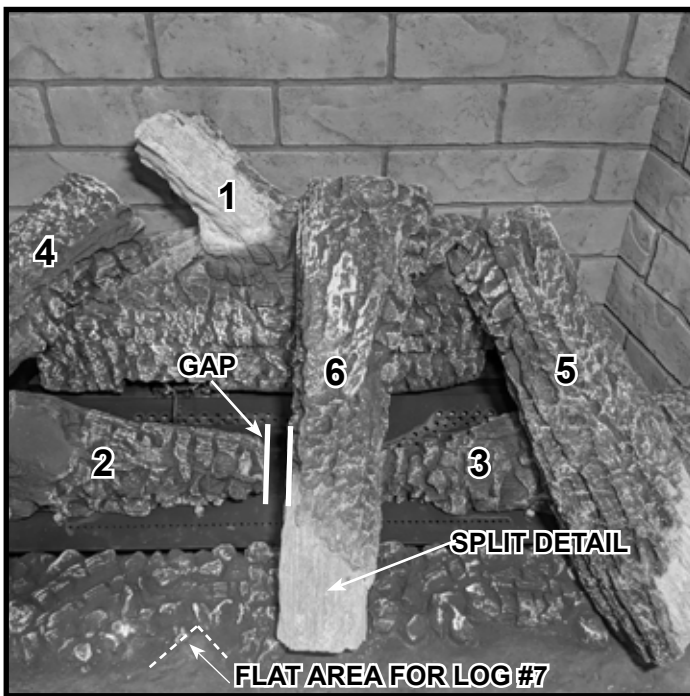
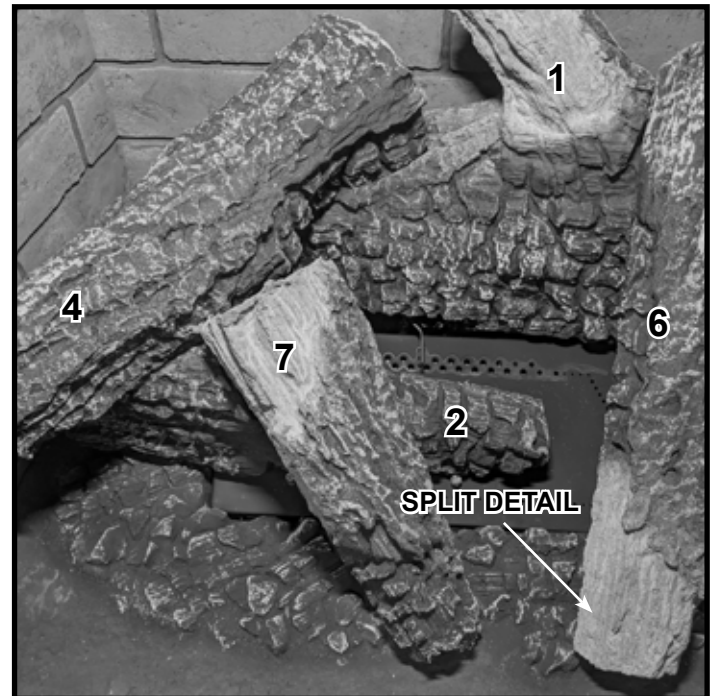
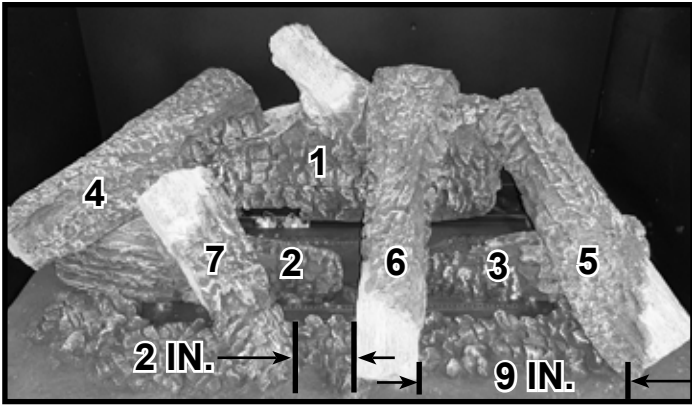

Figure 11 Place Log #6
Figure 12 Place Log #7
Figure 13 Log Placement Measurement
**Log #6:** Place the end of Log #6 that has the burn detail on the flat area of Log #1 and the end of Log #6 that has the split detail as shown in Figure 11. Refer to Figure 4 and Figure 5 for the location of the flat areas.
**Log #7:** Place Log #7 with the split detail in the flat area of Log #2 noted in Figure 6. The end of Log #7 that has the burn detail is placed in the flat area noted in Figure 11. Figure 12 shows Log #7 in position. Figure 13 shows the proper spacing dimensions between Log #7, Log #6 and Log #5.